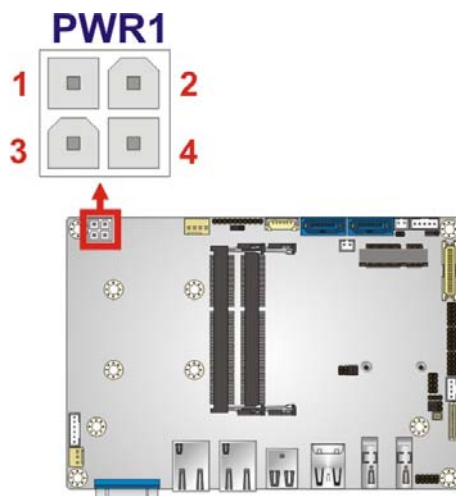

Figure 3-13: CPU Power Connector Location
- CN Location:** See **Figure 3-13**